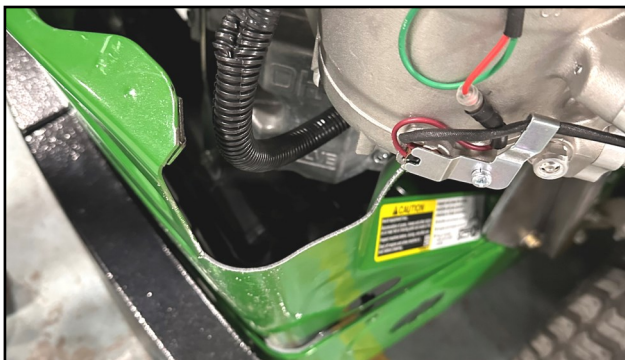

Fig. 2.28 (Modified Rear Engine Mount)
- 2.28** Re-install the modified rear engine guard using the hardware set aside in step 1.3. See Figure 2.28.